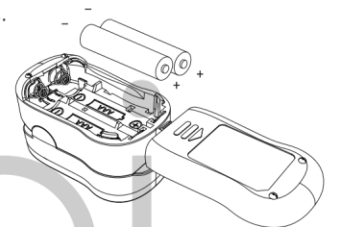

Figure 3. FS20P Battery Installation
- Push the battery cover horizontally along the arrow shown as figure 3.